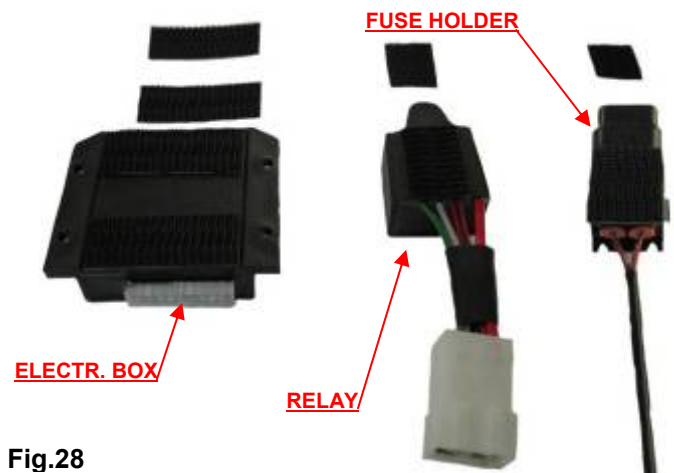

Fig.28
3.8.10 CUT THE DUAL-LOCK FIXING STRAP AND ATTACH IT TO THE ELECTRONIC BOX, THE STARTER FUSE, AND THE FUSE HOLDER (SEE FIG.28).